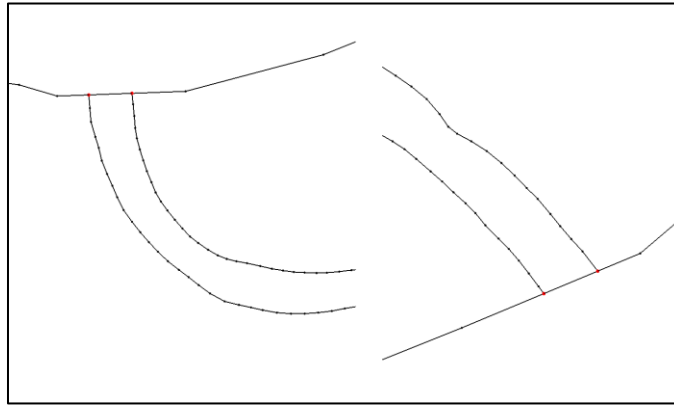

Figure 3 Intersection of the channel with the open boundaries.
6. **Zoom**  in on the upstream end of the channel (left side of Figure 3).
7. Now **Zoom**  in on the downstream end of the channel (right side of Figure 3).